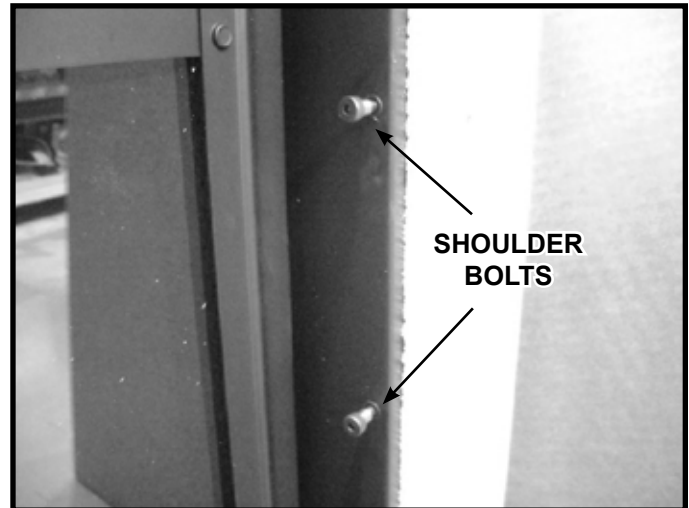

Figure 1. Location of Shoulder Bolts
1. Install the four shoulder bolts, two per side, as shown in Figure 1.